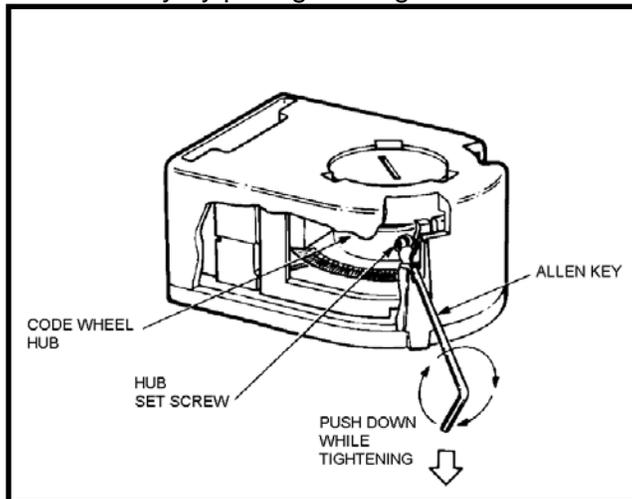

Figure 8-35: Adjusting the Encoder
4. While continuing to apply a downward force, rotate the Allen Key to the clockwise direction until the hub set screw is tight against the idler shaft (Figure 8-35). Remove the Allen Key by pulling it straight out of the encoder body.